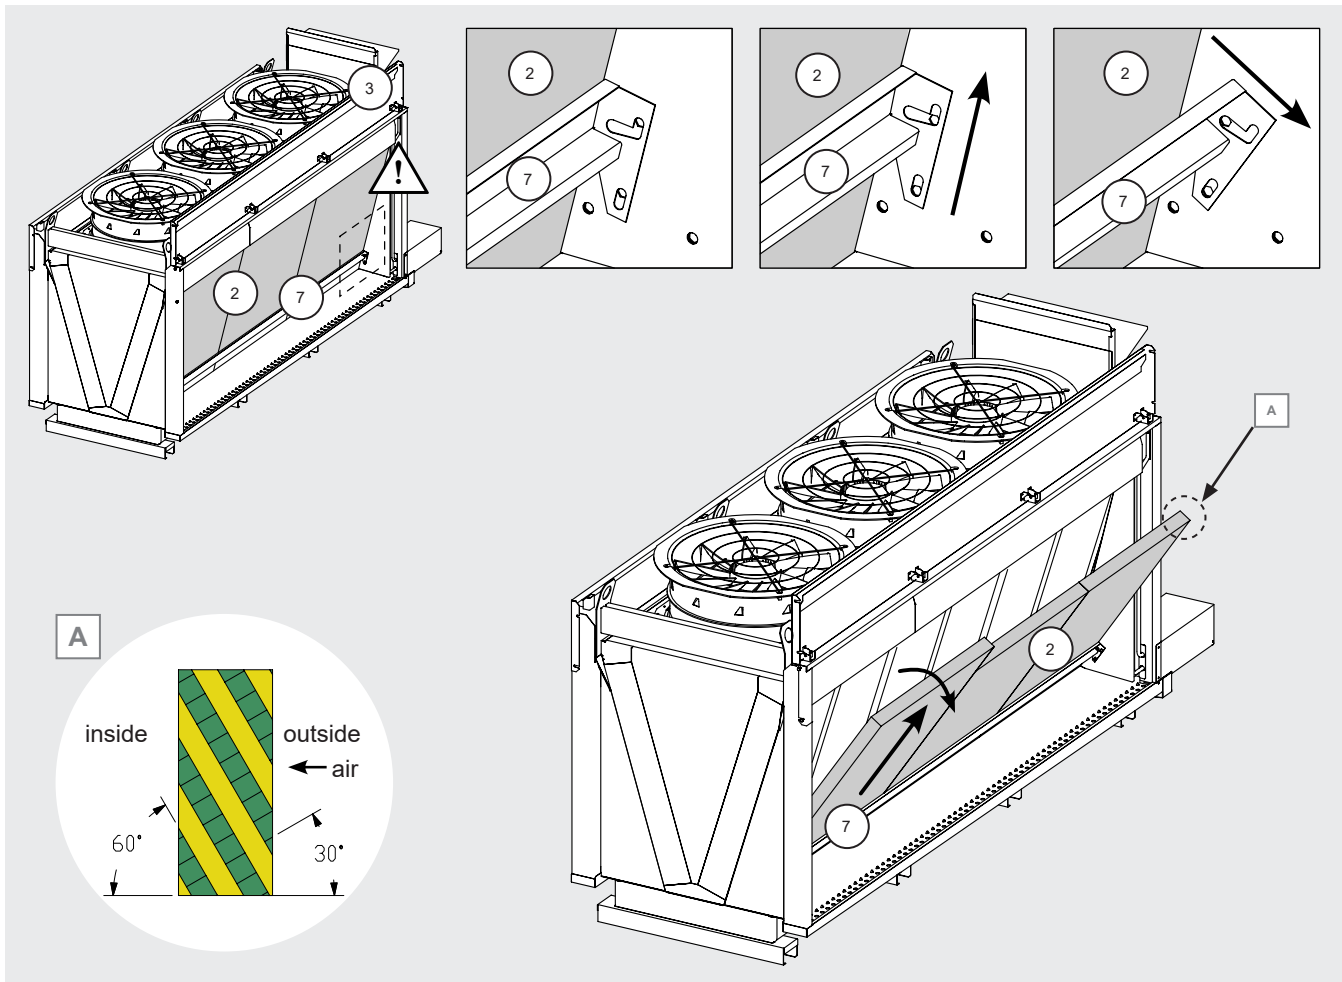

Figure 23
- 12.11.23 Pull the cross bar (7) upwards and then outwards, making it rotate. Pay attention: this will cause the cardboard panel (2) to tilt. See Figure 23.
- 12.11.26 Pay attention to the installation direction of the panels. See Figure 23 A.